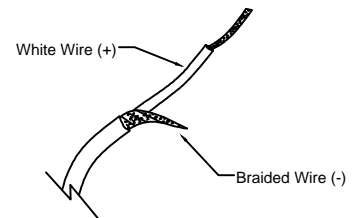

FIGURE-04
- Strip the White Wire by 1/2" as well as to the Braided Wire. (See Figure-04)